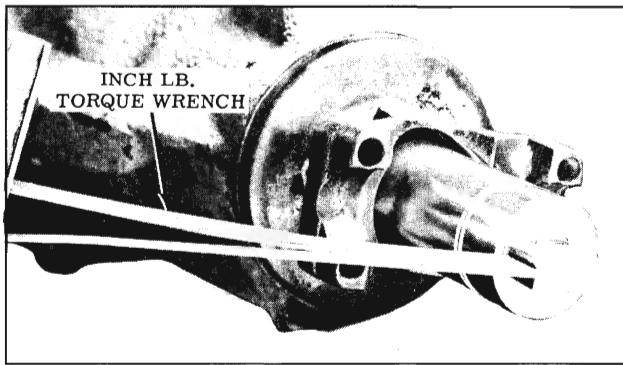

Fig. 6-121 Measuring Pinion Gear Preload
1. Rotate the pinion gear using an inch pound torque wrench (Fig. 6-121). Disregard the starting torque and measure the torque required to maintain uniform rotation of the pinion gear. The reading should be 15-25 in. lbs. with the old bearings; however, with new bearings the reading would be 25-35 in. lbs. Record the preload reading.